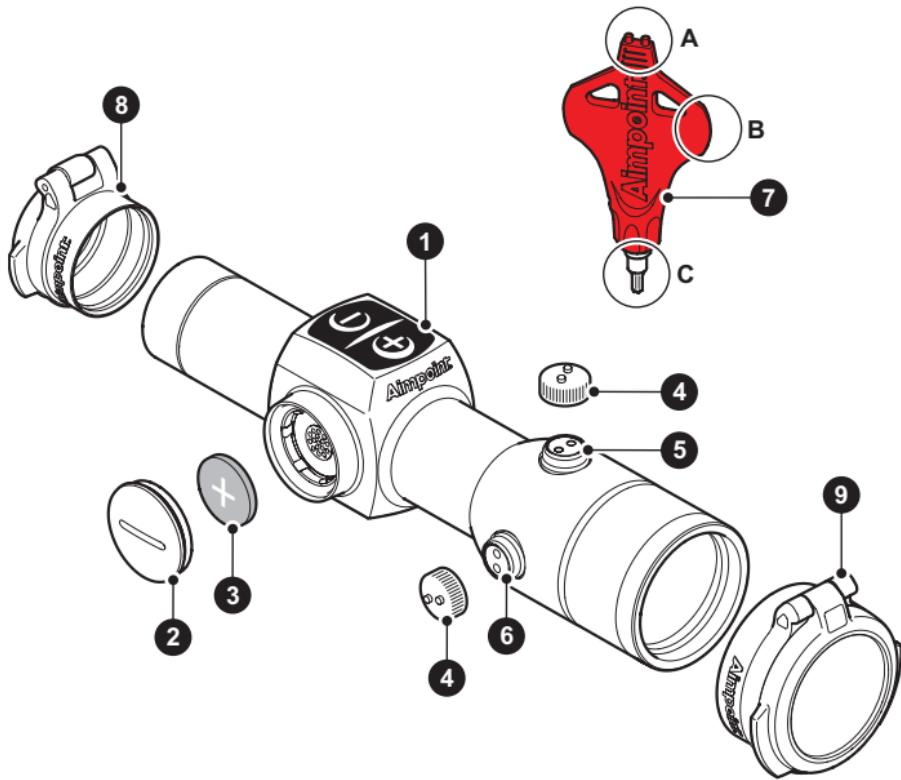

Fig. 2 ➔ 1.2
See Fig. 2
- Start the sight by pushing or on the intensity adjustment touch pad (1) located on top of the sight.
- a Remove battery cap (2) by turning it counter clockwise using the plastic adjustment tool (7B) included with your sight.
- b Insert battery (3) with positive end (+) toward battery cap (2) as can be seen in Fig 2.
- d Install battery cap (2) by carefully aligning the threads on the battery cap (2) with the threads in the sight body, then turn the battery cap (2) clockwise until snug. Hand tighten only using the adjustment tool (7B).
- e Verify that red dot is present by pressing or intensity buttons (1) on the sight.